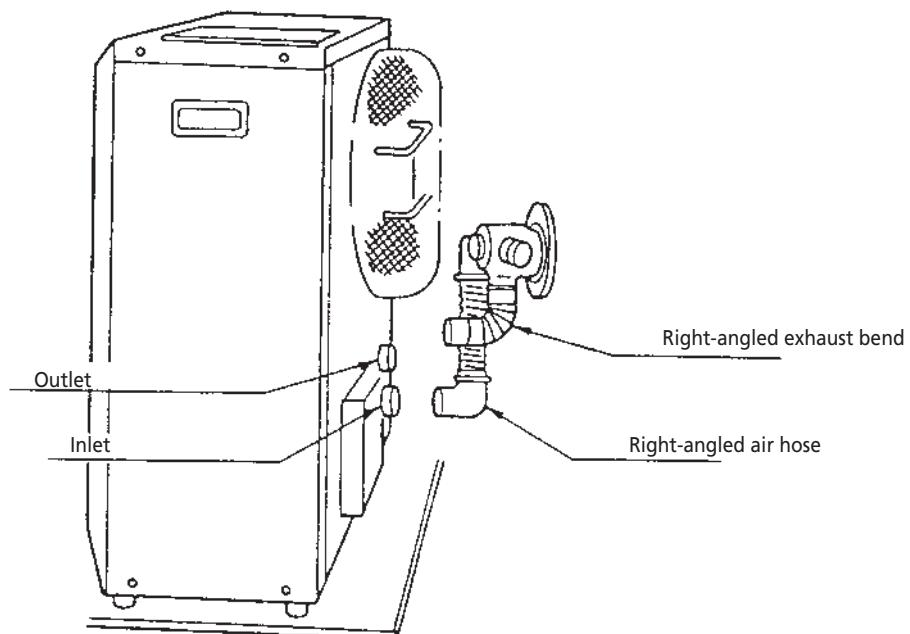

Fig. 11
5. Place the heater in the desired location. Attach the right-angled exhaust bend to the outlet (the top opening) and attach the right-angled air hose to the inlet. Check that everything is firmly attached (See Fig. 11).